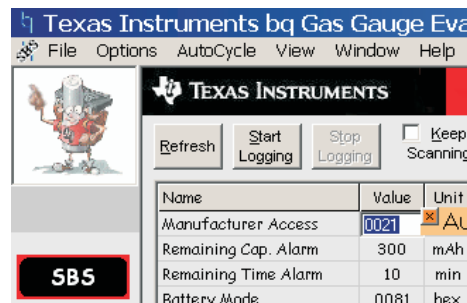

Figure A-3. Writing One-Word MAC Command on SBS Screen
1. In the SBS screen, as shown in the Figure A-3, a single-word MAC command can be achieved by entering the word in the *Value* cell of Manufacturer Access and pressing the *ENTER* key. If writing a two-word MAC command, use the *Write 2 Command Word* button as previously described.
3. Enable Impedance Track™ (IT) by entering 0x0021 to Manufacturer Access (does not return any value). Figure A-3 shows how to do this. This sets the chipset in normal operating mode; and all gauging/protection functions are activated.